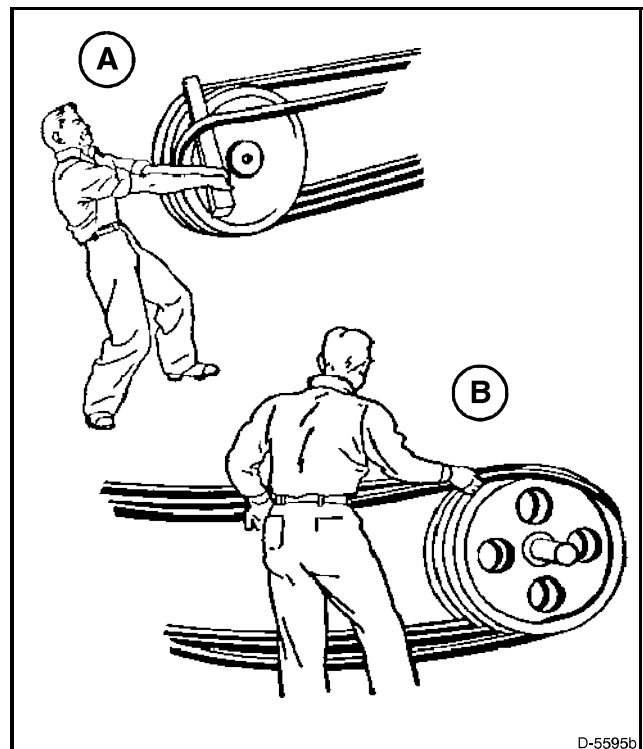

FIG. 4
FIG. 4: When replacing a belt, never force a belt over the rim of a pulley. Do not pry or use force to install the belt (A). This can break the cords in the belt. Loosen the tensioner before installing the new belt. If the belt still can not be easily installed, run the belt over the rim while rotating the pulley (B).